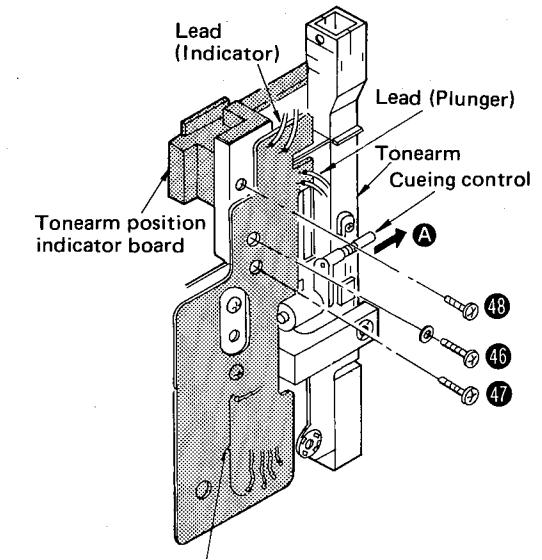

Fig. 13
3. Unsolder the 5 lead wires of the cartridge. (Fig. 13)
2. Unsolder the 2 lead wires of the cueing plunger. (Fig. 13)
3. Remove the 2 screws (Fig. 13 : ④, ⑦) of the cueing control ass'y, and remove the ass'y in the direction of the arrow A.
2. Unsolder the 2 lead wires of the indicator. (Fig. 13)
3. Remove the screw of the tonearm position indicator board. (Fig. 13 : ⑧)